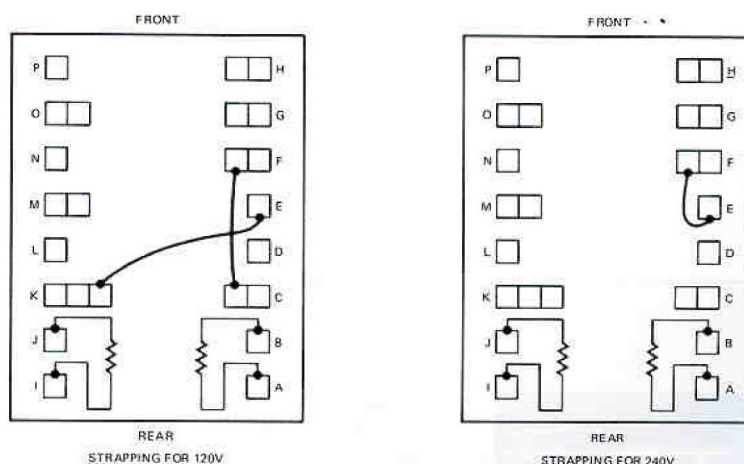

Figure 1. Strapping of Power Transformer for 120V and 240V Power
- Step 4. Locate strap connecting terminals C and F (see Figure 1). Remove strap and store for possible later use.
- Step 5. Locate strap connecting terminals E and K. Remove spade connector from terminal K and connect it to terminal F. This strap now connects terminals E and F as shown in Figure 1.
240 volts, as shown in Figure 1. The power input nameplate, adjacent to the power cord on the chassis, is mounted to show the appropriate side specifying connections.
Equipment supplied for domestic use is provided with the power transformer primary strapped for 120 volts, as shown in Figure 1. The power input nameplate, adjacent to the power cord on the chassis, is mounted to show the appropriate side specifying connections. Verify that line voltage is in accordance with the voltage rating *before* connecting primary power.